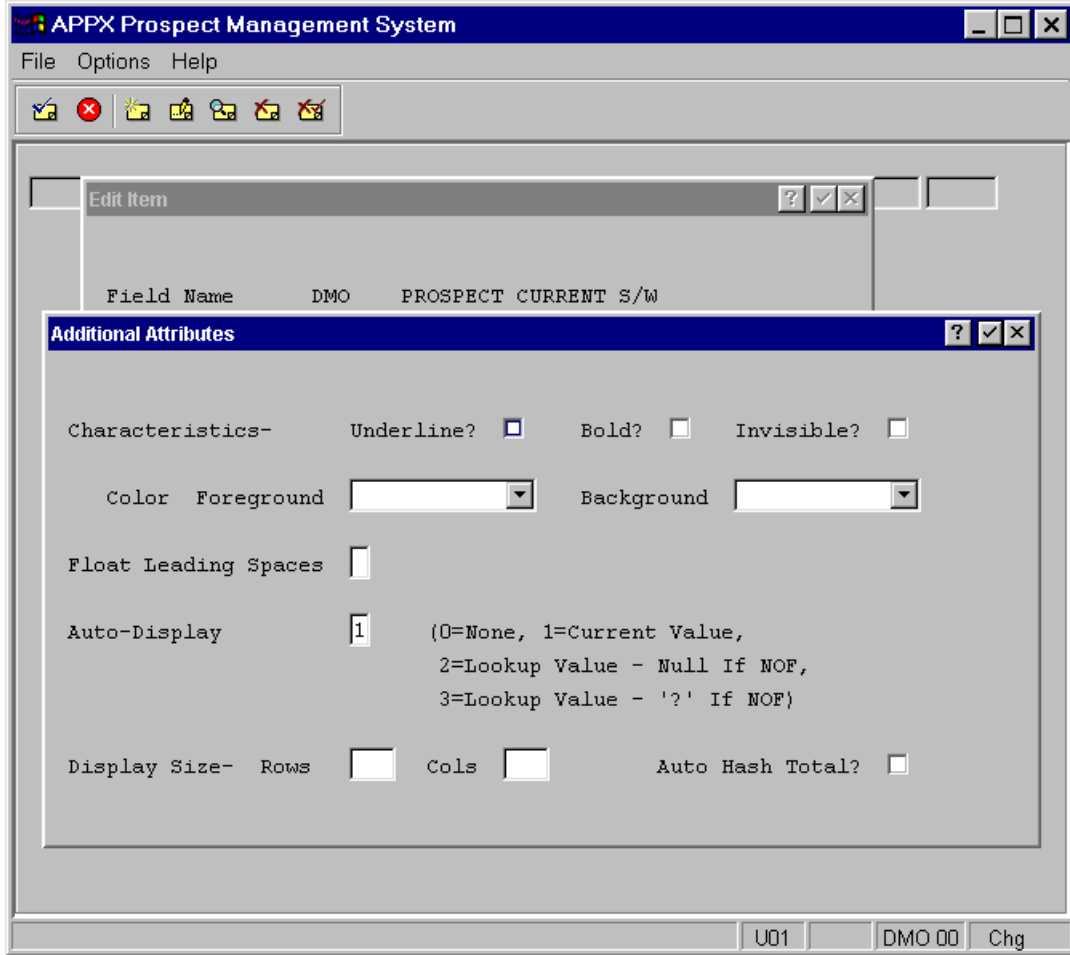

Figure E4.13 – Field Additional Attributes
- This displays the field name and you can then click on the **Additional Attributes** button to view/change the field attributes (*Figure E4.13*). Again you can use the **?** button to get detailed information on the various attributes which you can set.